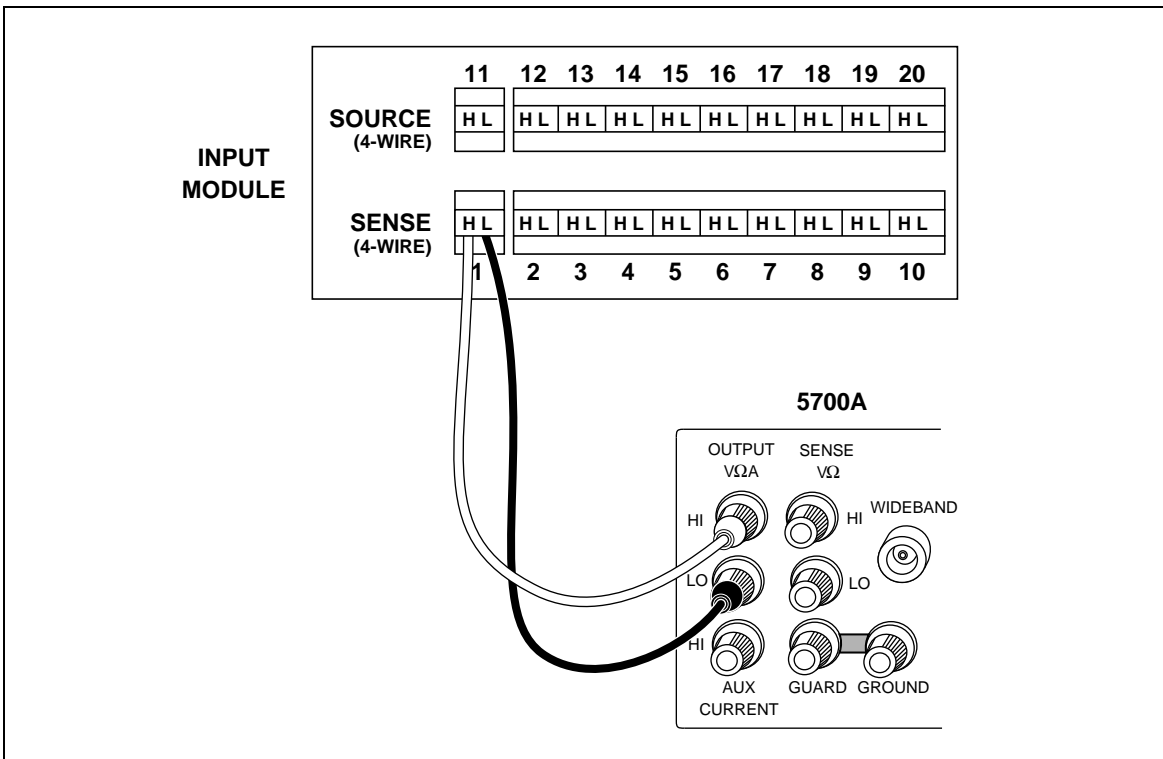

Figure 4-2. Two-Terminal Connections to 5700A
2. **Connect the 5700A to Channel 1** Connect a cable from the Output VA HI and LO connectors of the 5700A to the Universal Input Module terminals for channel 1 connecting the 5700A HI to terminal H and LO to terminal L. Insert the Universal Input Module into the instrument under test (Figure 4-2).